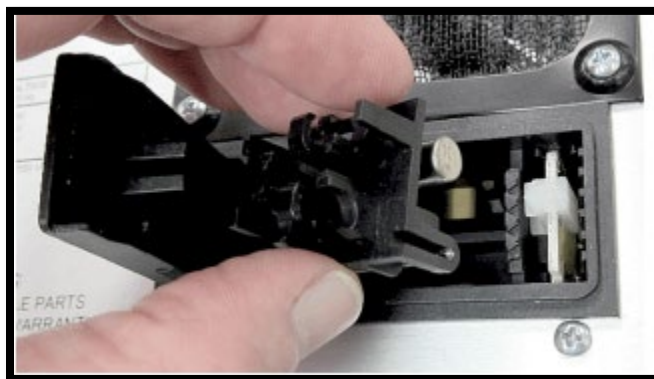

Figure 22. Remove the Fuse Holder
- 1) With the unit disconnected from ac power, lift out the reversible fuse holder (Figure 22).
- For 100 or 120 V ac line voltage, one fuse, 2 A (SB) size 3AG.
- For 230 or 240 V ac line voltage, two fuses, 1 A(T) size 5×20 mm.